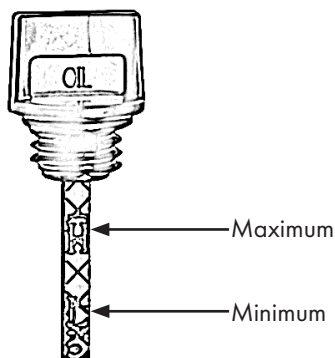

Figure 15
- Read the oil level, see also Fig. 15.
There must be an oil film between the upper and lower markings. If there is no oil film, the oil level is too low, Fig. 15. Top up with more oil. H-High stands for maximum. L-Low stands for minimum.